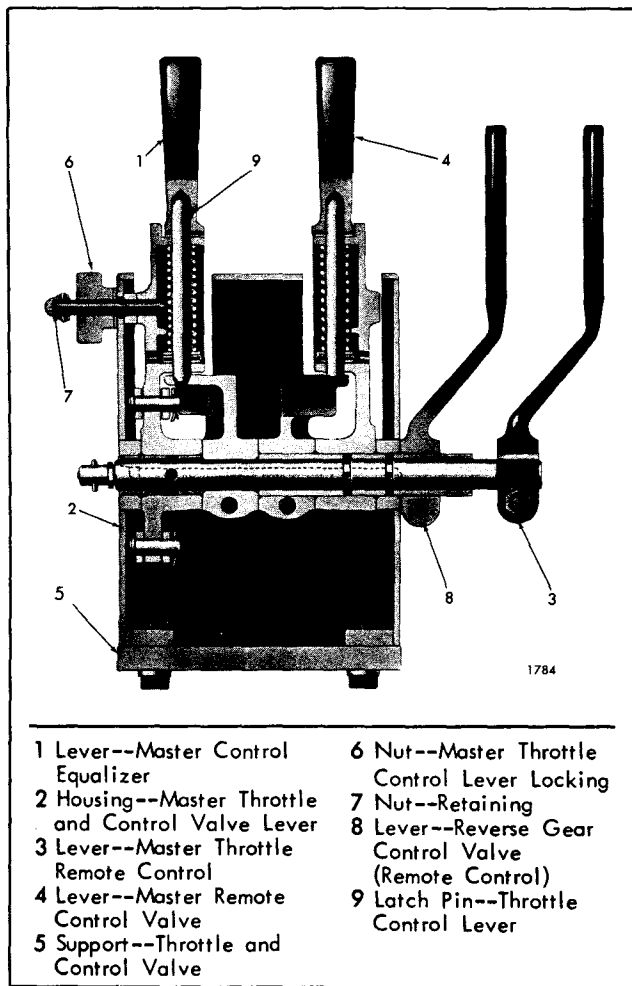

Fig. 2 - Master Throttle Assembly on a Tandem Twin Unit
and lower arms of the throttle lever shank are in a vertical straight line, as observed through the two holes on the side of the lever housing (2). Secure the throttle lever in this position with the knurled lock nut (6), Fig. 2.